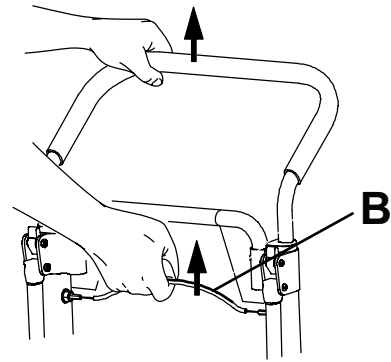

Figure 7 – Upper control handle release cable
3. Head end operator: Use one hand to pull the red upper control handle release cable (B) (Figure 7). Use the other hand to pull up and fully extend the handle. Release the cable and make sure that the handle is locked on both sides in the fully extended position.